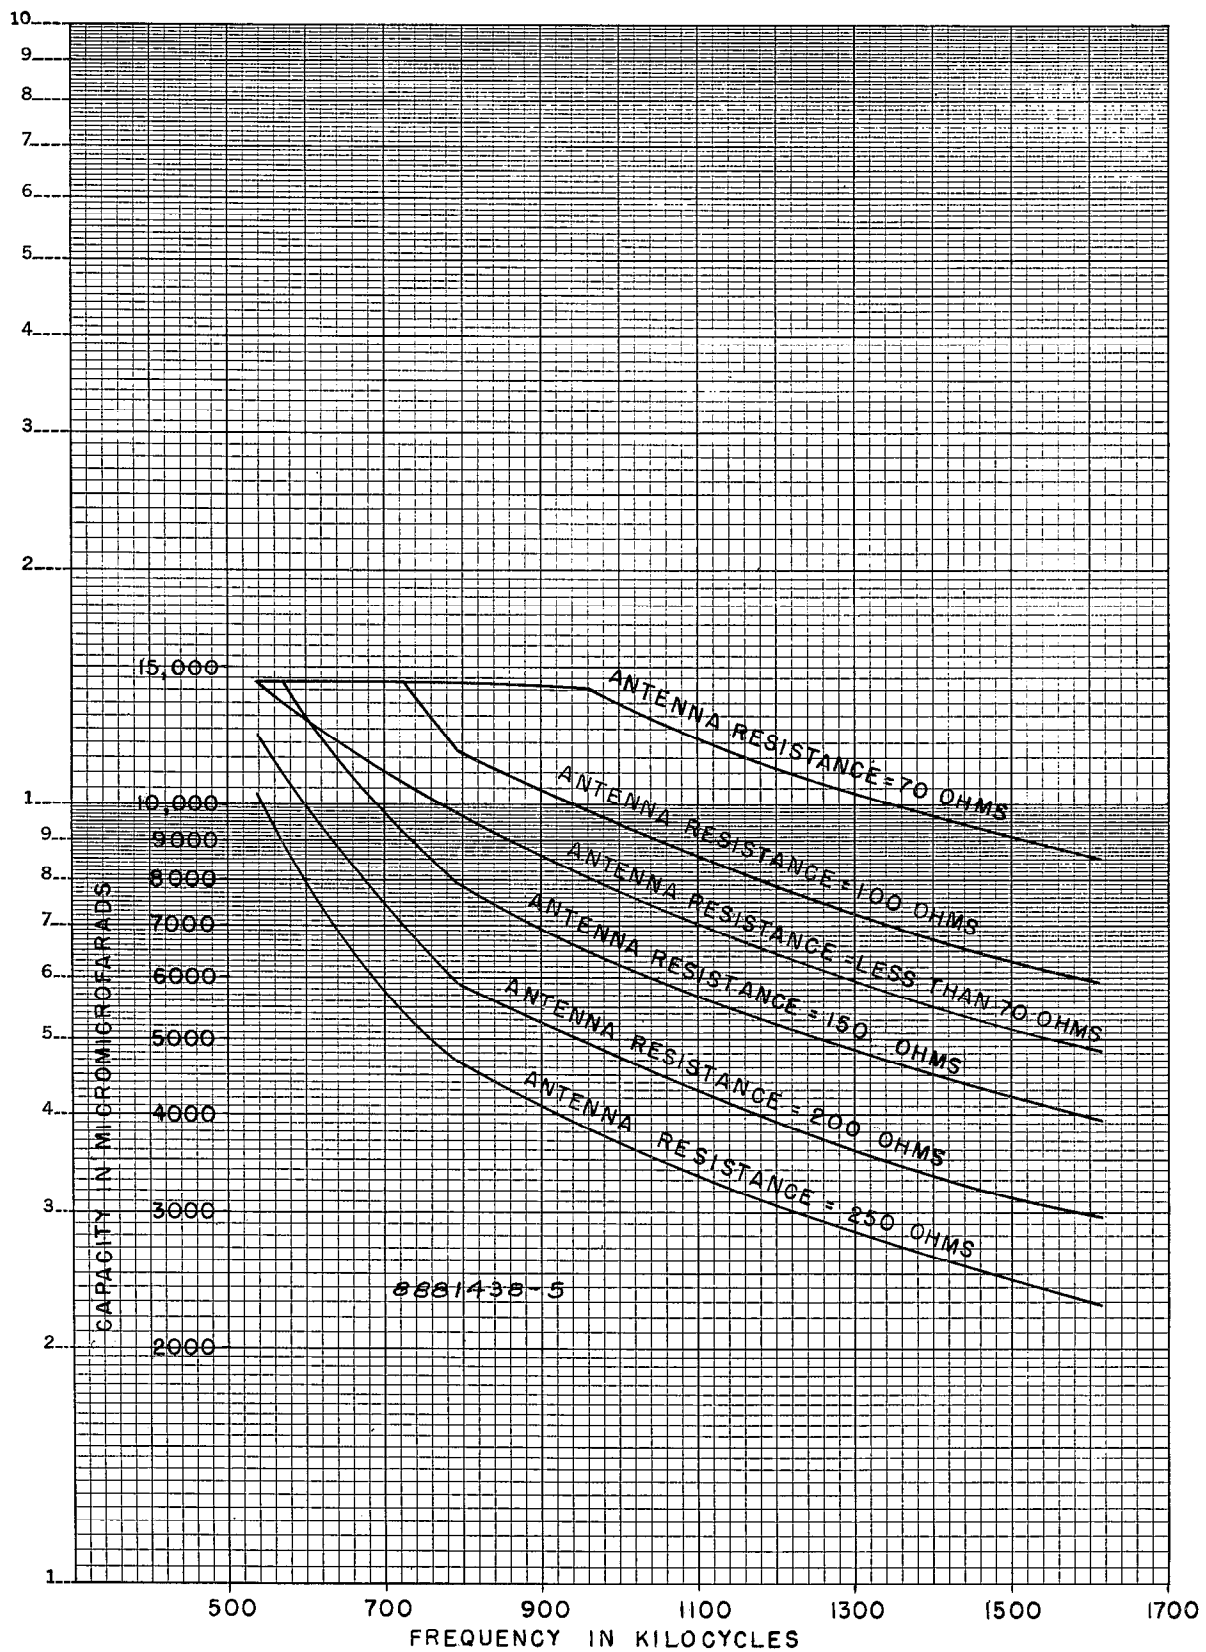

Figure 7—Capacity of C120, C121, C122 Combination (8881438-5)
6. Determine the required shunt capacitance from the known frequency and antenna resistance, using Figure 7.
6. From Figure 7, the required shunt capacitance is 6200 mmf. Note that since the antenna resistance, 20 ohms, is less than 70 ohms, the curve marked "ANT RES. = LESS THAN 70 OHMS" on Figure 7 is to be used.